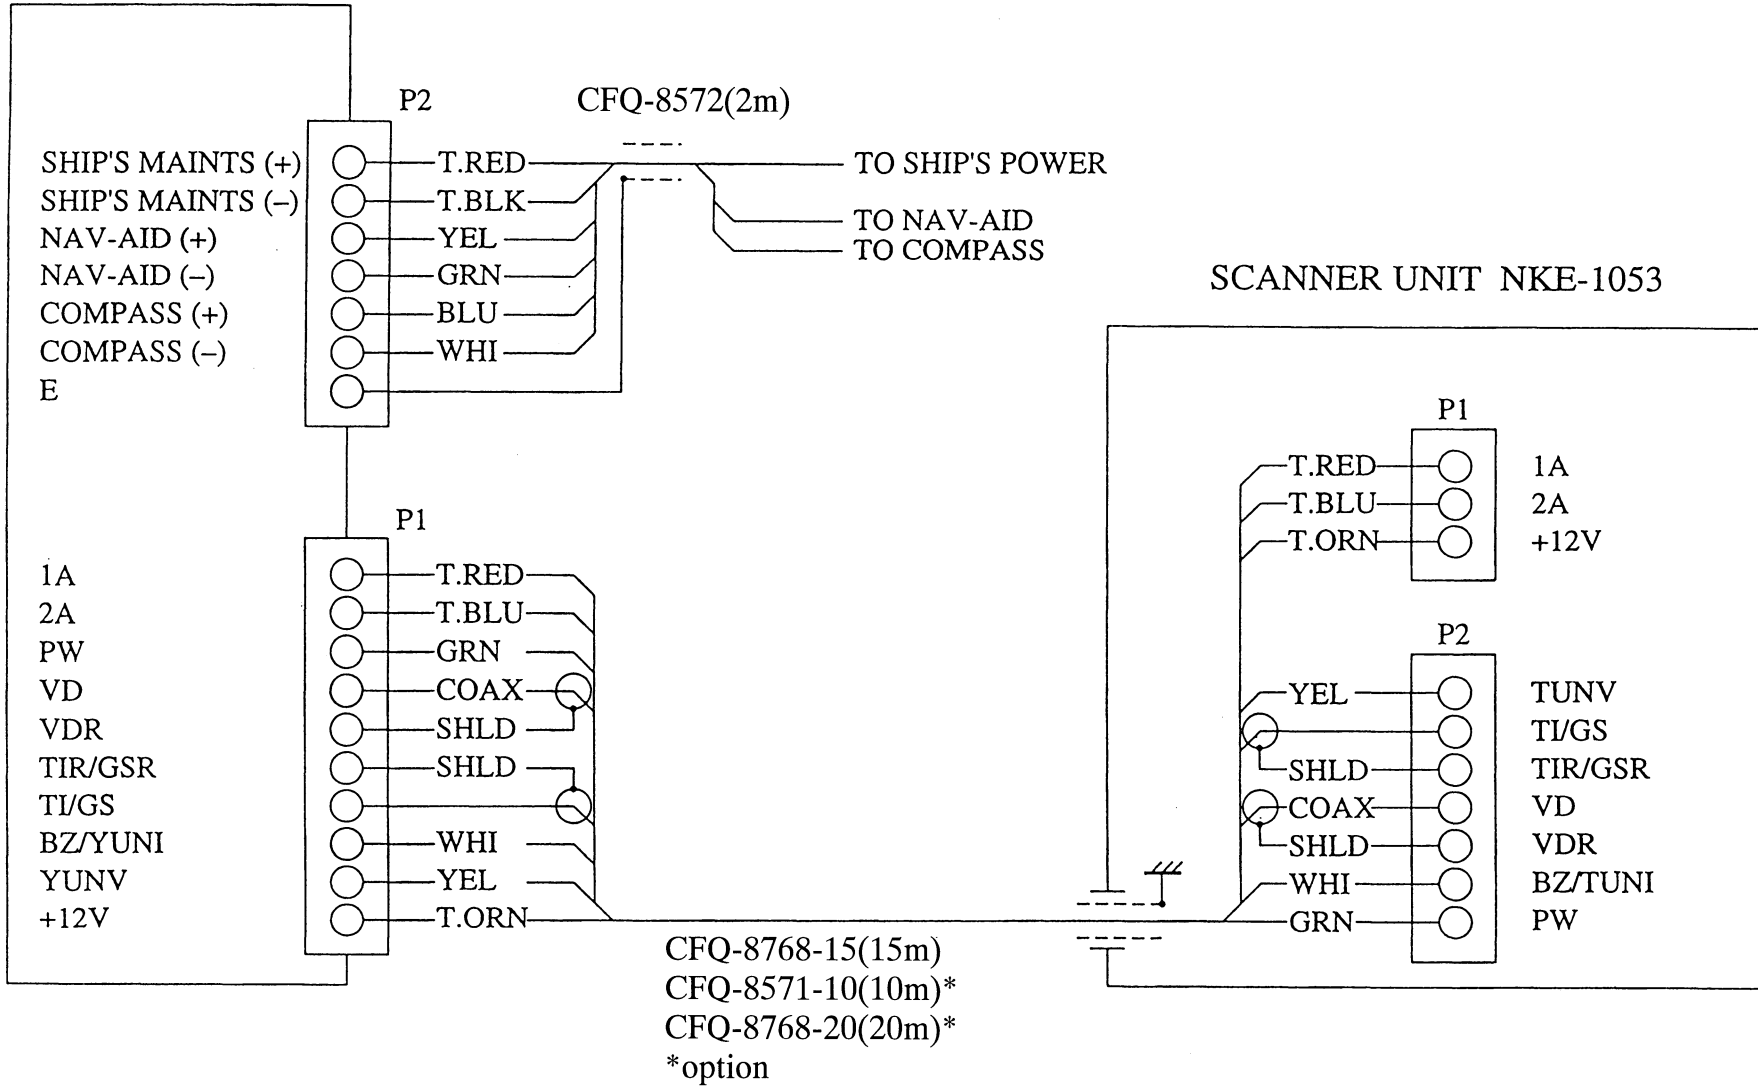

Fig.104 Interconnection Diagram
- Fig. 104 INTERCONNECTION DIAGRAM OF RADAR 1000 MK II